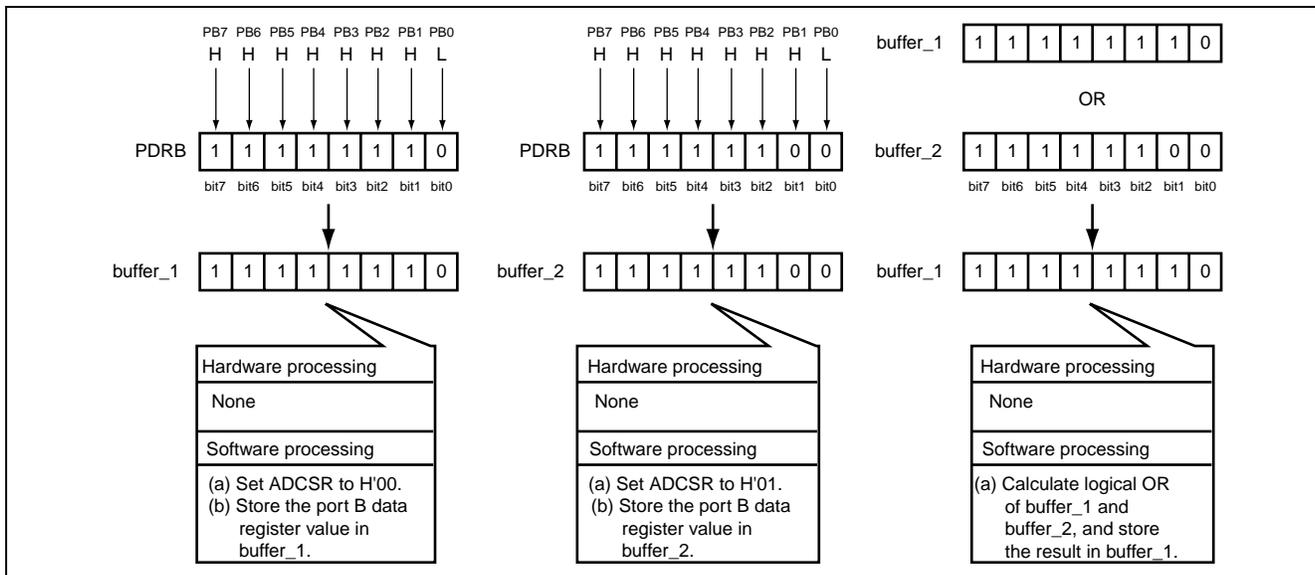

Figure 3.1 Description of Port B 8-Bit Parallel Input Operation
1. Figure 3.1 gives a description of the task's operation. Port B parallel input is performed through software processing as shown in the figure. Operation of this task is in the sequence from left to right of figure 3.1.